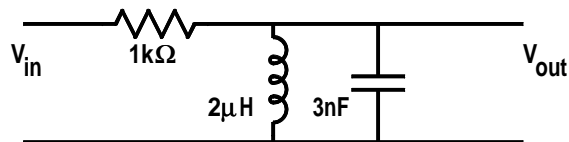

Figure 16.9: Problem 16.5.
16.5 Construct the Bode plot for the circuit shown in Figure 16.9.